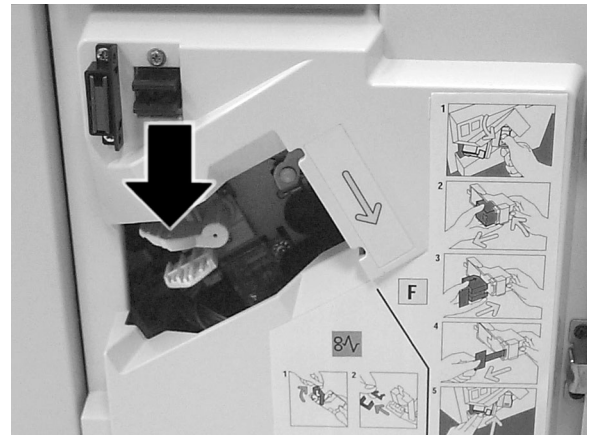

Figure 3: Pressing the Gold Release Latch
- 2 Squeeze the Gold Release Latch until the Staple Cartridge is released (Figure 3).